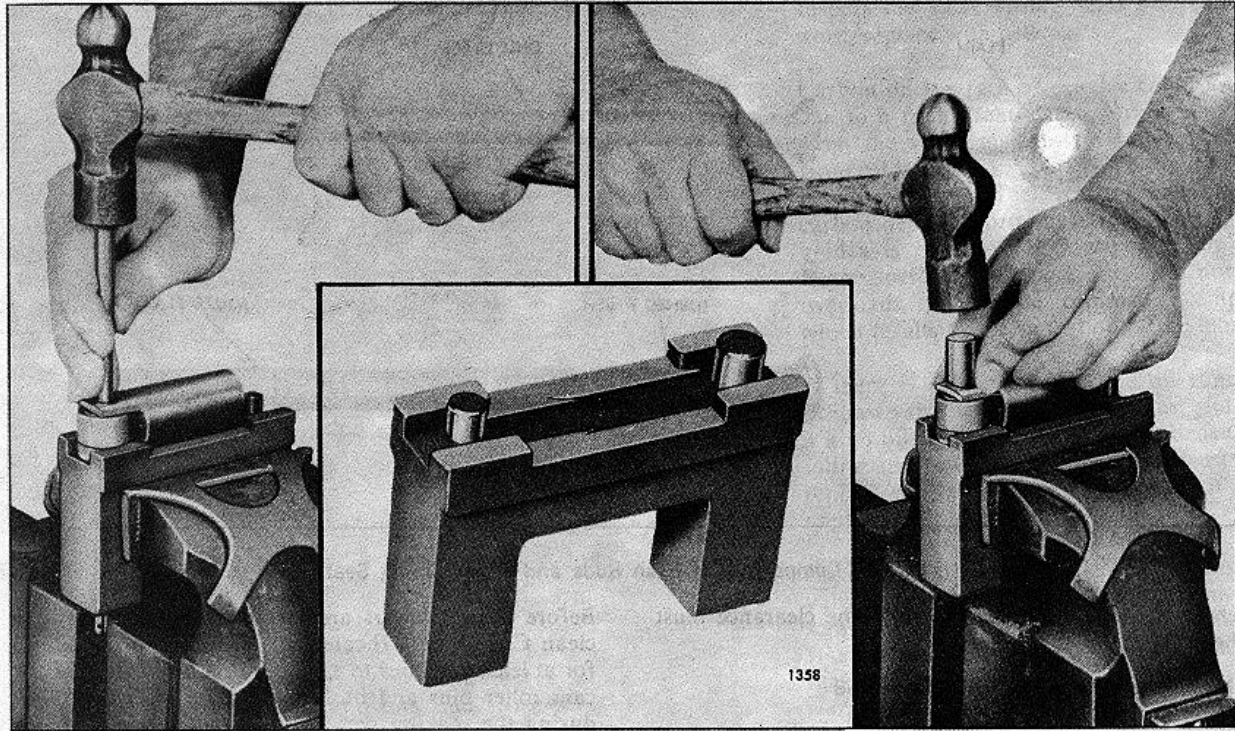

FIG. 8- Removing or Installing Cam Follower Roller and Pin
1. Clamp fixture J 5840-01 securely in a vise as shown in Fig. 8. Then place the cam follower in the groove in the top of the fixture, with the follower pin resting on top of the corresponding size plunger in the fixture.